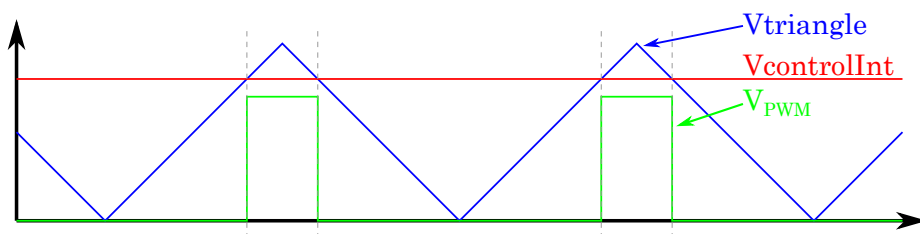
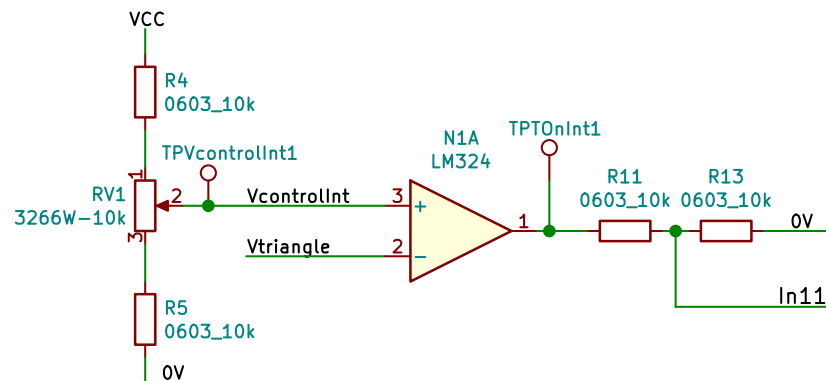

Figure 1: Comparing the triangular voltage with a reference level
Figure 3: Comparing the triangular voltage with a reference level
In power electronic converters it is quite common to use pulse width modulation to control the switch. These signals are often obtained by comparing the value of digital counters to reference values. This can be done in software or in hardware in a computer or microcontroller system, but in this lab we'll use a more traditional way that is available for measurements in the lab. We'll make a circuit to generate a triangular voltage that we can compare to a reference level to obtain the pulse width signal like shown in Figure 1. Here we can see the PWM output goes high when the V_{control} is lower than the V_{triangle} .
We now have a triangular voltage. This can be compared to a reference voltage to produce a PWM (Pulse Width Modulation) signal. This is done with another op-amp as shown in Figure 3. When the voltage VController is higher than the Vtriangle, the output is at VCC and when the voltage VController is lower than the Vtriangle, the output is at 0V as shown in Figure 1.
- Verify that the PWM-signal on the output of N1A (pin 1 in Figure 3) can be controlled by RV1 from 0 to 100% duty cycle. Make sure the duty cycle increase as the pot is turned clockwise. Note the voltage of VcontrolInt at 10, 50, and 90% duty cycle.